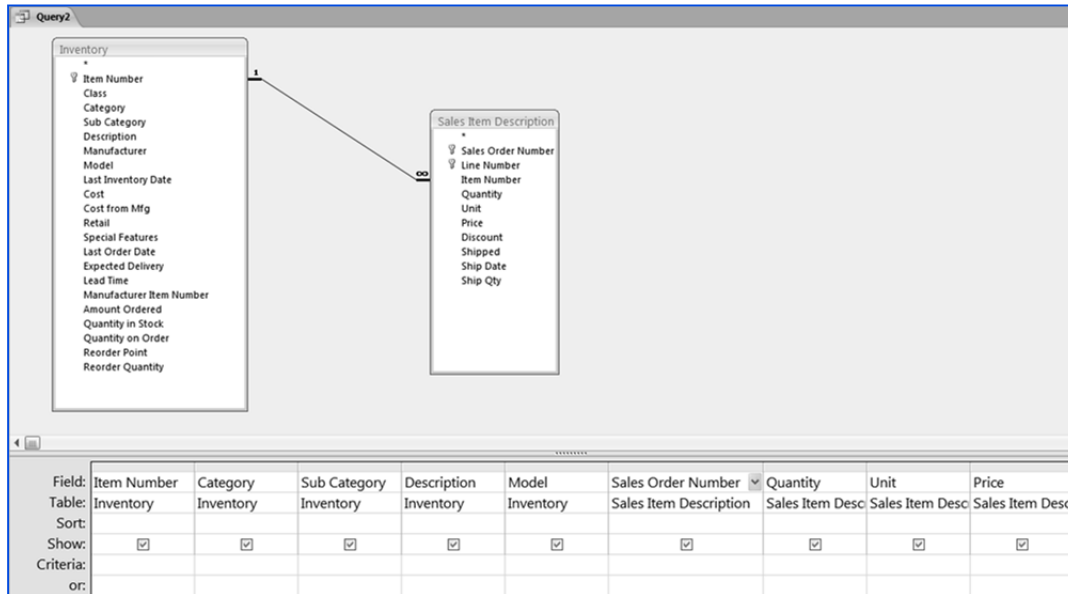

Fig. 3.3.8: Specify Required Fields
3. Select *Item Number*, *Category*, *Sub Category*, *Description*, and *Model* from the *Inventory* table and drag them to the *Columns* tab. Similarly drag *Sales Order Number*, *Quantity*, *Unit*, and *Price*. The *Query* window appears, as shown in Fig. 3.3.8.